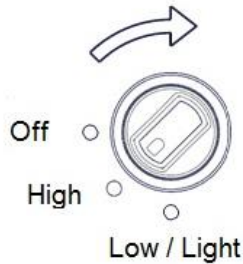

Figure 2
- a) Turn gas control to high position (Refer to Figure 2).